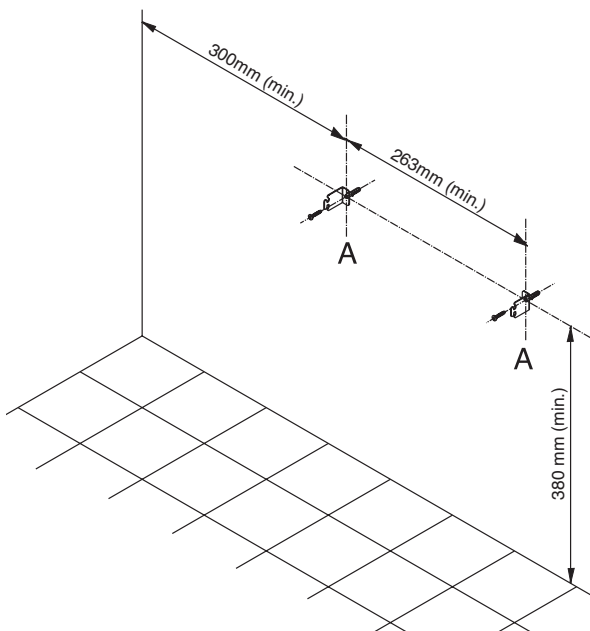

Fig. 3
- Fix the brackets "A", making sure the distances are as shown in fig. 3.